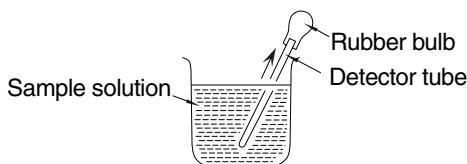

FIG. 2.26 DIRECT SAMPLING METHOD
- (3) Direct sampling method (see FIG. 2.26) : Sample solution is drawn into the tube end by a rubber bulb (an extra option).The concentration of the ion is read by the direct reading method or the concentration chart method as in case of the gas detector tubes.